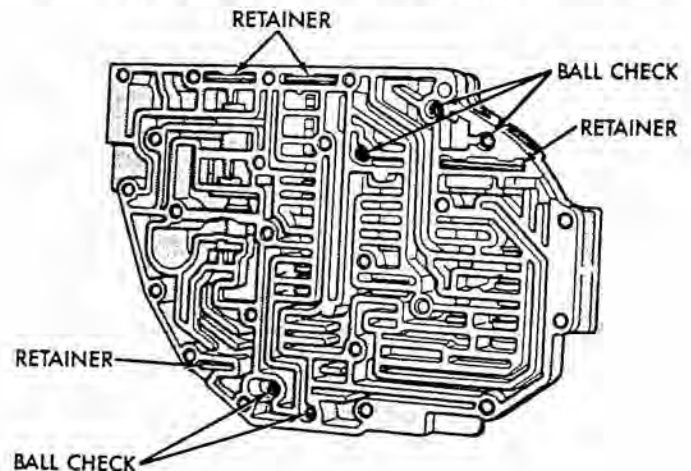

Fig. 13 Ball Check Location
- (7) Remove valve body check balls. Note the location of valve body check balls (Fig. 13).